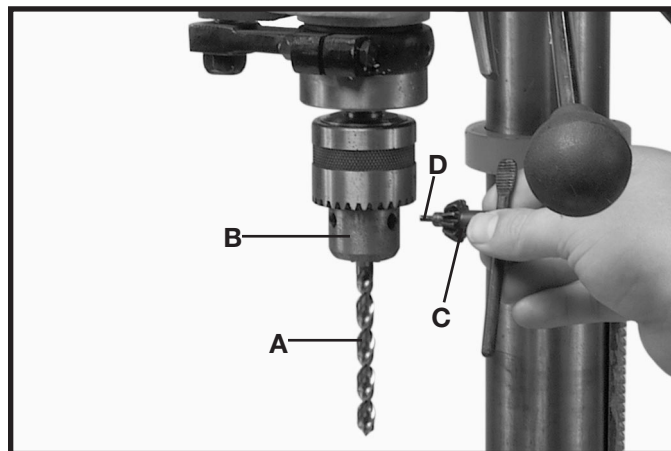

Fig. 35
1. Insert smooth end of drill bit (A) Fig. 35, into chuck (B), as far as it will go, and then back the bit out 1/16", or up to the flutes for small bits.
2. Make certain that the drill bit (A) Fig. 35, is centered in the chuck (B) before tightening the chuck with the key (C).
3. Turn the chuck key (C) Fig. 35, clockwise to tighten and counterclockwise to loosen the chuck jaws.
5. **⚠ CAUTION** MAKE SURE chuck key (C) Fig. 35, is removed from chuck before starting drill press. Your chuck key (C) is equipped with a self-ejecting pin (D) which helps minimize the hazard of the key being left in the chuck.